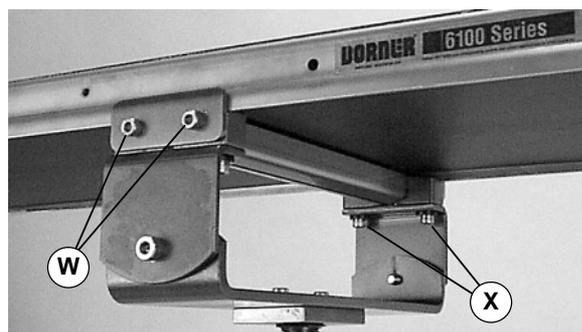

Figure 16
3. Attach clamp plates on each side of conveyor (Figure 16). Tighten the screws (W) to 9 Nm.